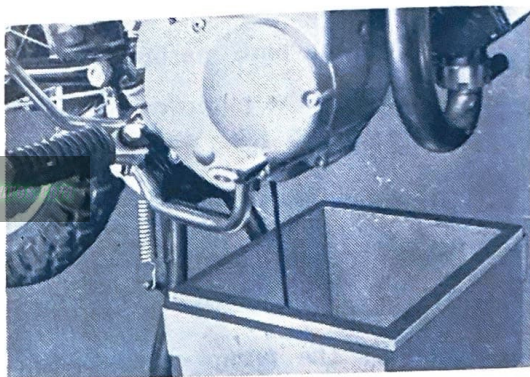

Fig. 3-1-1
1. Drain the transmission oil after running the engine for 1 to 2 minutes. (Fig. 3-1-1)